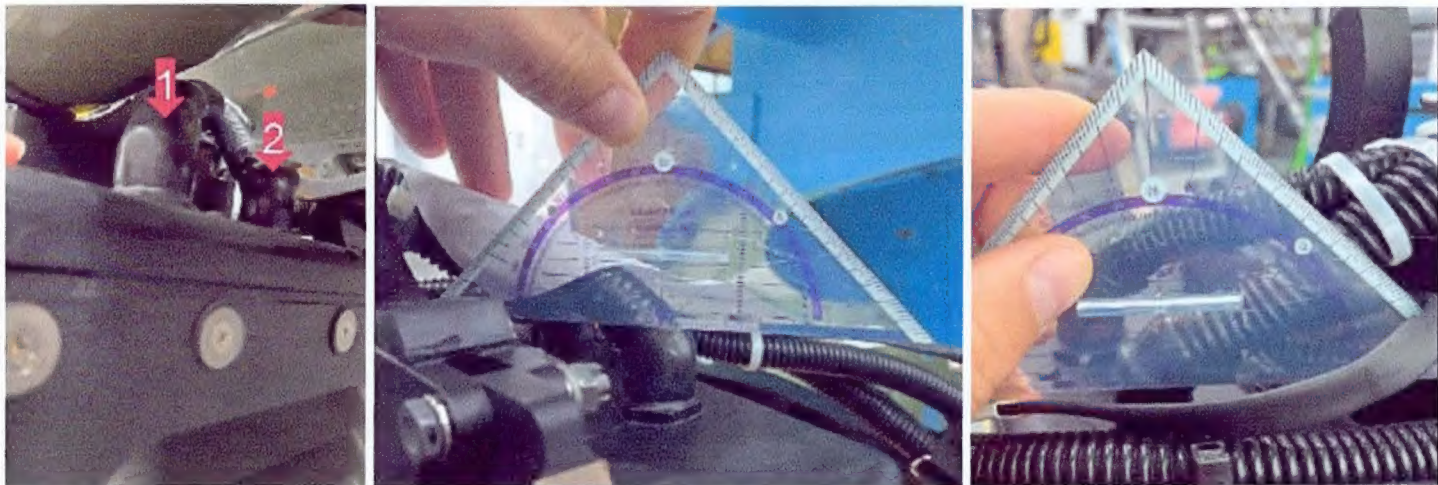

FIGURE 2: CABLE CHANNEL MODIFICATION
4. Use a heat gun to modify the rubber ends of the cable channels as shown in Figure 2 to prevent the cable channels from making contact with the Multi-Functional-Step.